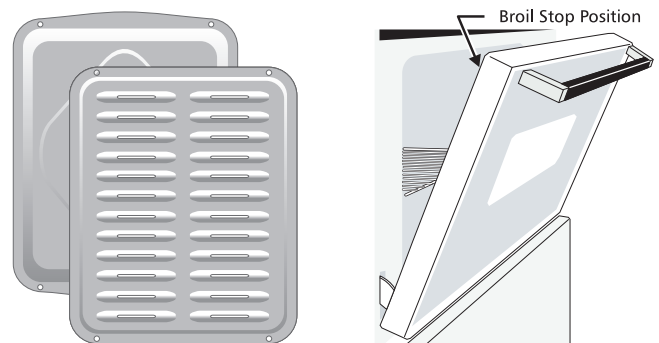

Figure 25: Broil pan and insert (L) Door in position when broiling (R).
6. Place the broiler pan and insert on the oven rack. Broil with the oven door open to broil stop position (Figure 25).